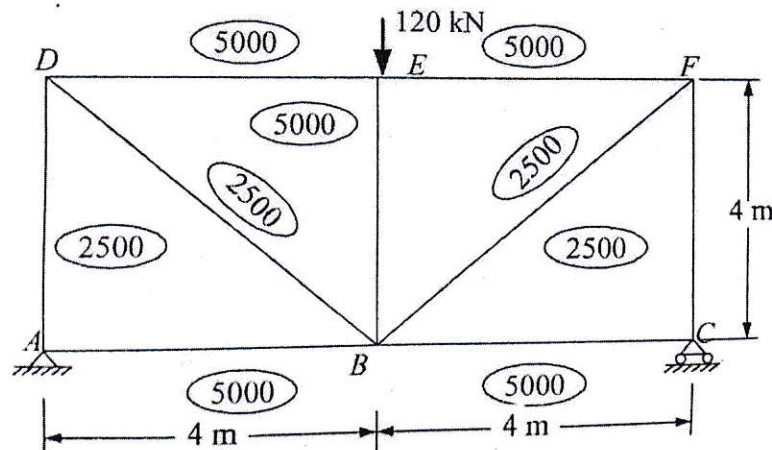

Fig. 8
5. Find the vertical deflection of the joint B in the truss loaded as shown in figure 8. The cross-sectional area of the members in mm are shown in brackets. Consider $E = 200 \text{ KN/mm}^2$. 20